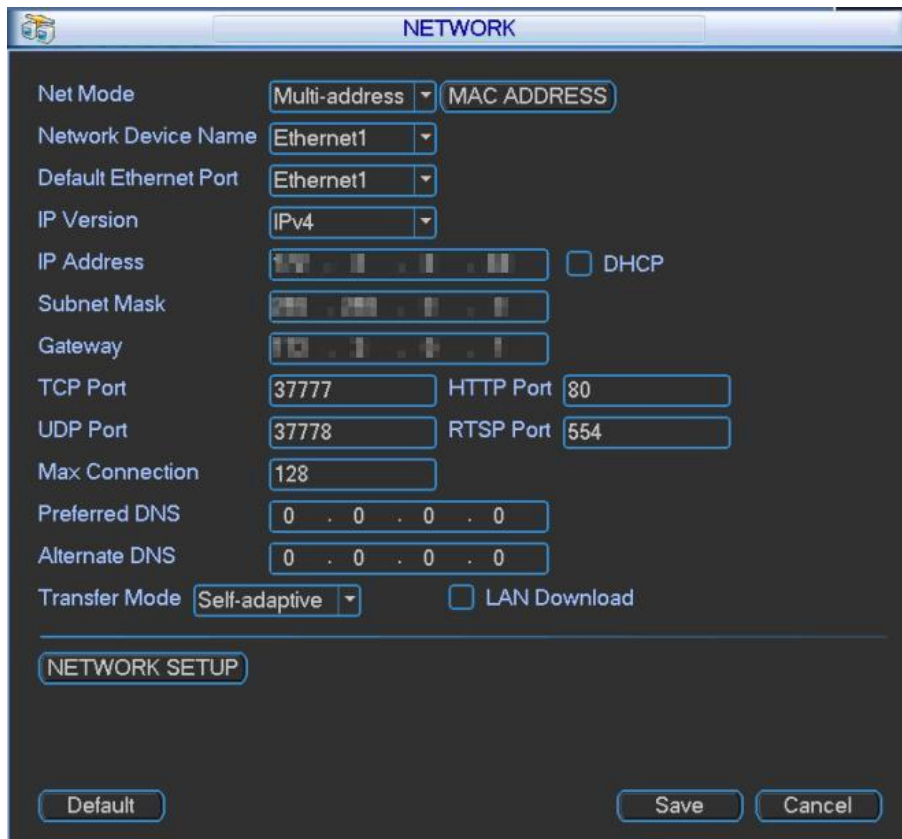

Figure 3-37
Step 1 In main menu, select "Setup> Network", and the system displays "Network" interface, as shown in Figure 3-37.